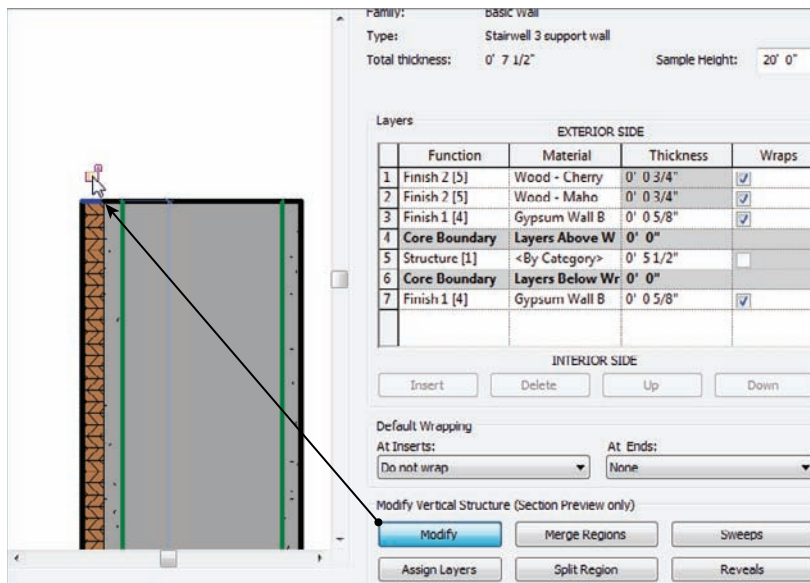

FIGURE 16.8 Unlocking the plywood to enable independent movement after the wall is placed into the model
7. Pan to the top of the wall in the display, as shown in Figure 16.8.
8. Click the Modify button (see Figure 16.8).
9. Hover your cursor over the top of the 3/4" (19mm) plywood (see Figure 16.8).
11. Unlock the blue padlock (see Figure 16.8).